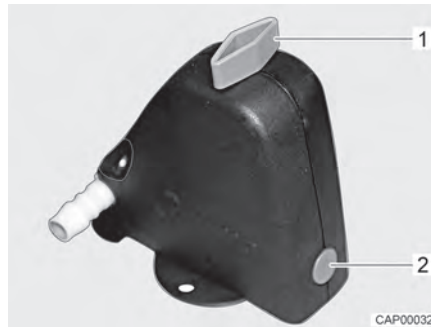
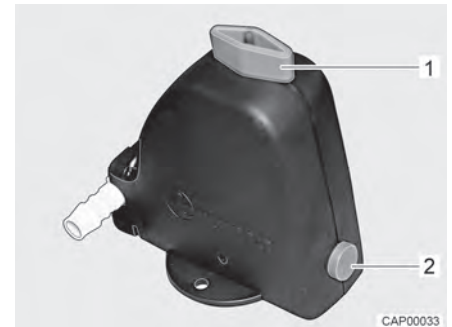

Fig. 131 Safety/drainage valve closed
Fig. 132 Safety/drainage valve open
- Open the safety/drainage valve (Fig. 131). To do this, turn the knob (Fig. 131,1) parallel to the safety/drainage valve. The push button (Fig. 131,2) jumps out. The open safety/drainage valve is shown in Fig. 132.